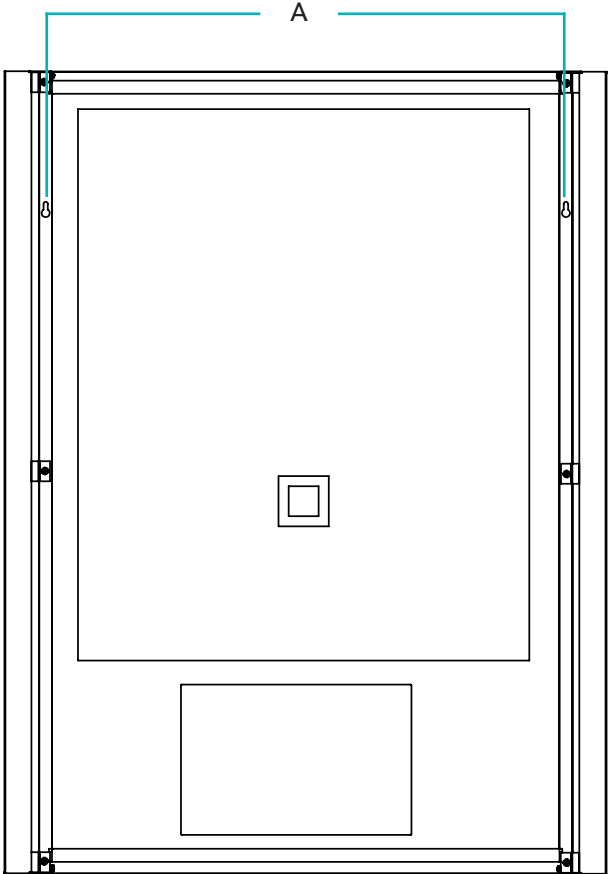

Fig 2. - Mounting points
2. Carefully mark the position of the mirror using a soft pencil ensuring it is level. Remove the mirror and mark the mounting points, *see Fig. 2*. **Please ensure that all marked mounting points accurately match up with the fixing points on the mirror.**